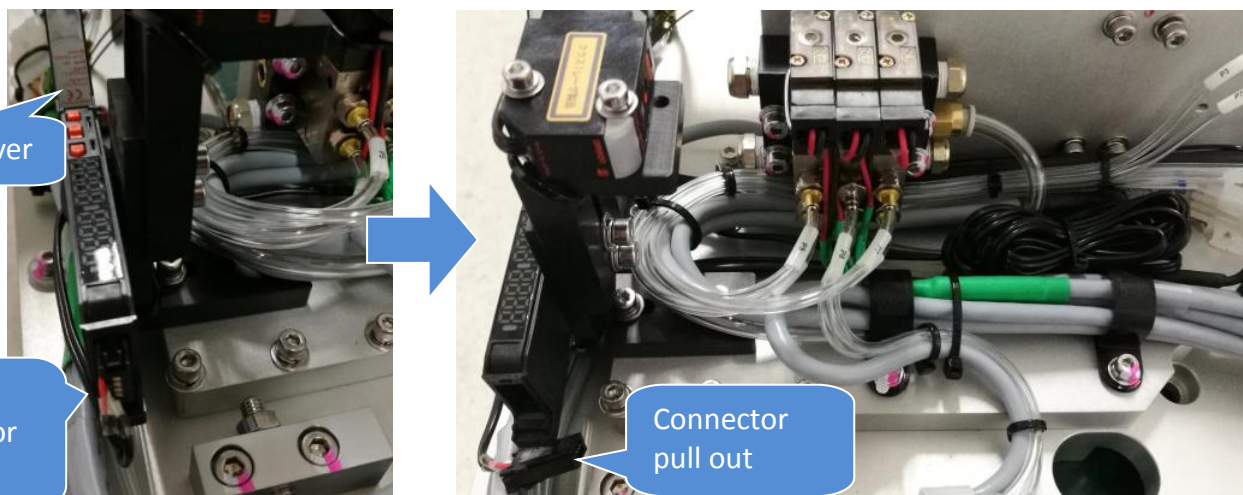

Figure 2 Laser Sensor Head Connector Removal
4. Open amplifier cover and remove the Laser Sensor Head Connector as below Figure 2